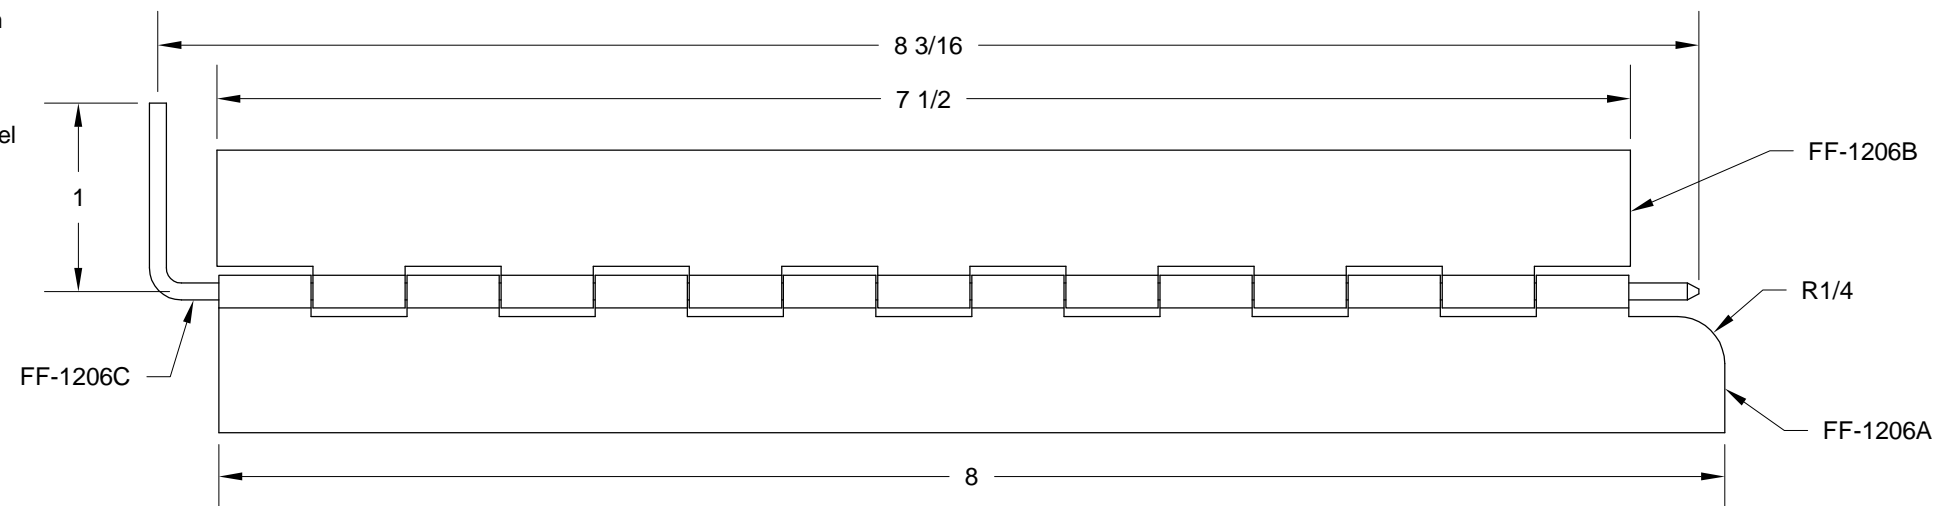

FIGURE 2: COOLER BOX HINGE
Step 4: Make the FF-1206A and FF-1206B Cooler Box Hinges from MS20257C4-4 Stainless Steel Hinge using the dimensions given in Figure 2.